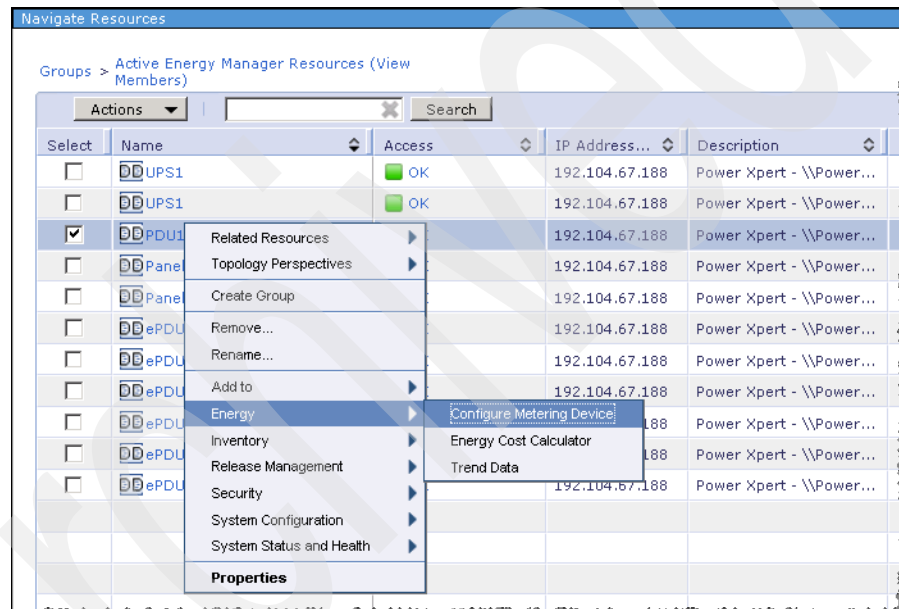

Figure 10-27 Active Energy Manager Resources (view Members)
2. Right-click any facility management equipment managed by Eaton PXR or APC ISXC server, select **Energy** → **Configure Metering Device** as shown in Figure 10-27.